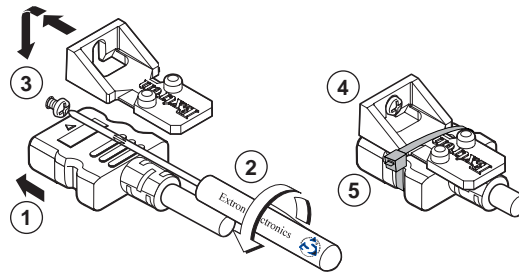

Figure 7. Installing the LockIt Lacing Bracket
1. Plug the HDMI cable into the panel connection (see ① in figure 7).